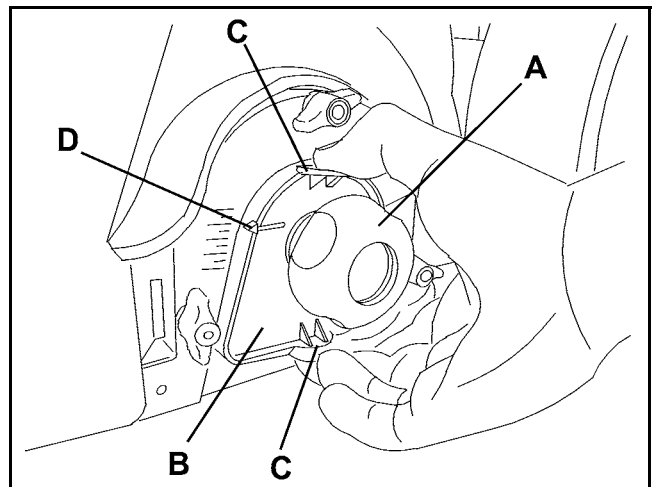

Figure 11
3. On both sides of the machine, loosen the knob (A, Fig. 11).
4. Grasp the support (B, Fig. 11) on the points (C) and move it outward, then lift it or lower it to change the main broom height; for height variation, refer to the indicator (D). Then tighten the knob (A) on both sides of the machine.